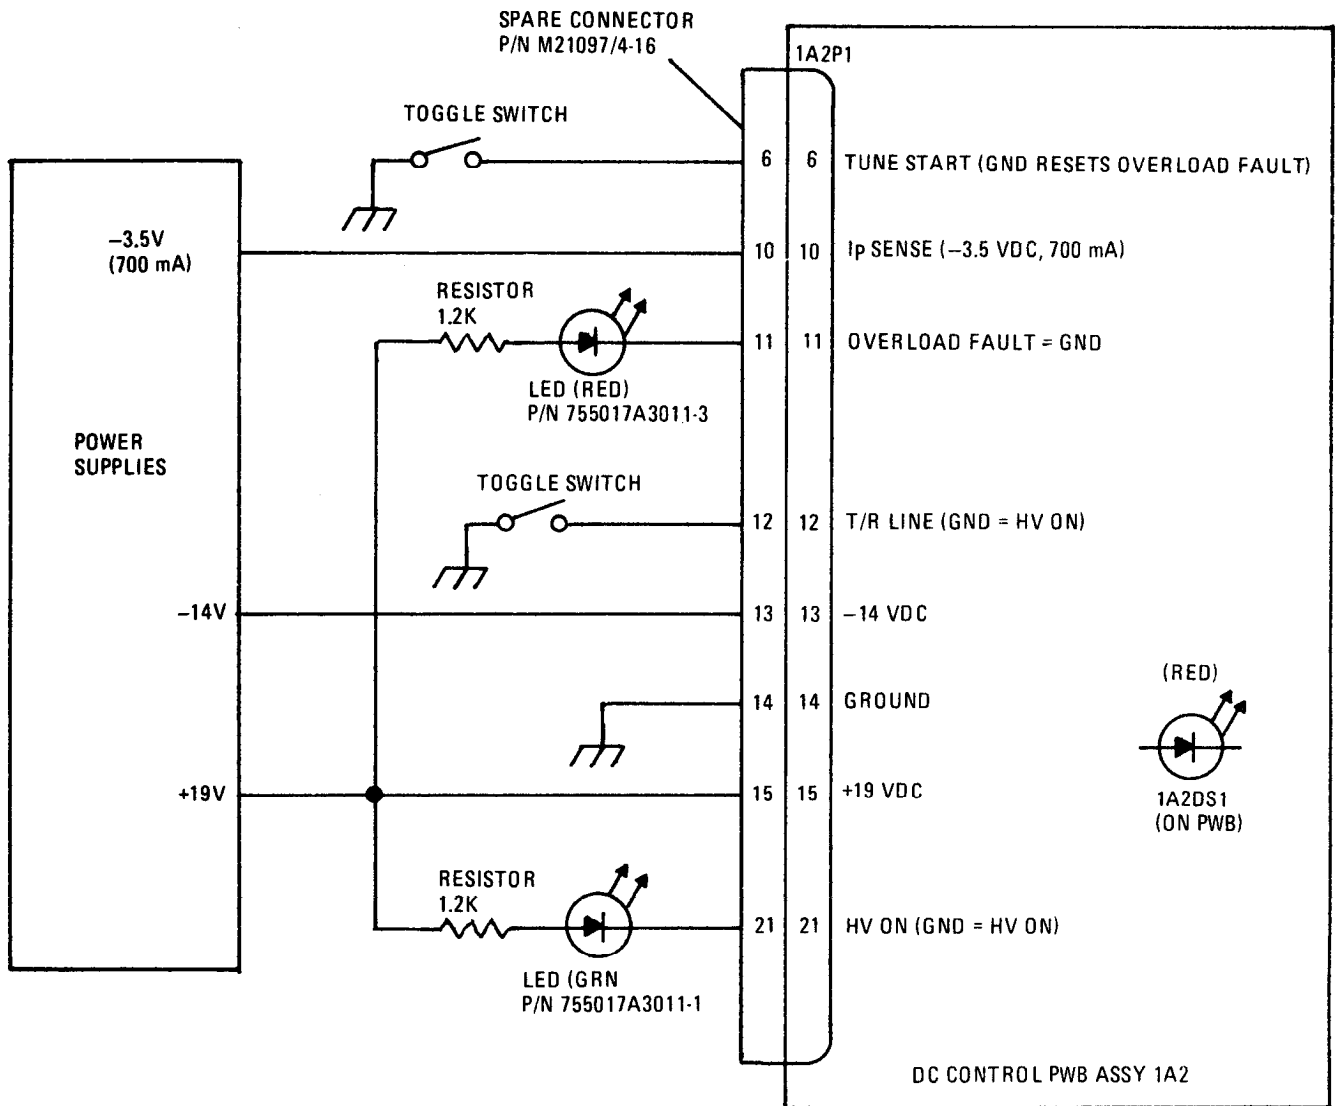

Figure 3-24. HV Overload Threshold Adjustment Setup - DC Control PWB Assy 1A2
1. Establish the adjustment setup shown in figure 3-24.